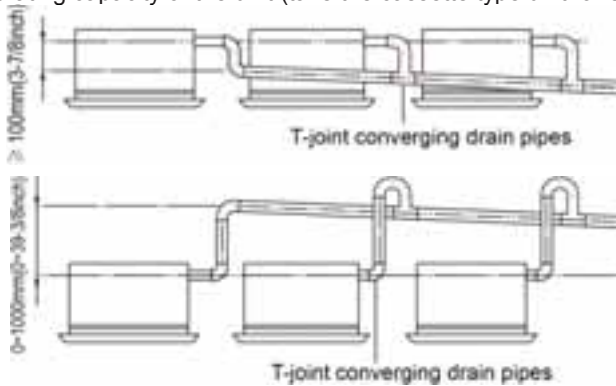

Fig. 4.20
- (3). When multiple drain hoses are used, they should be installed as shown in Fig. 4.20. Select converging drain pipes whose gauge is suitable for the operating capacity of the unit (take the cassette type unit for example).